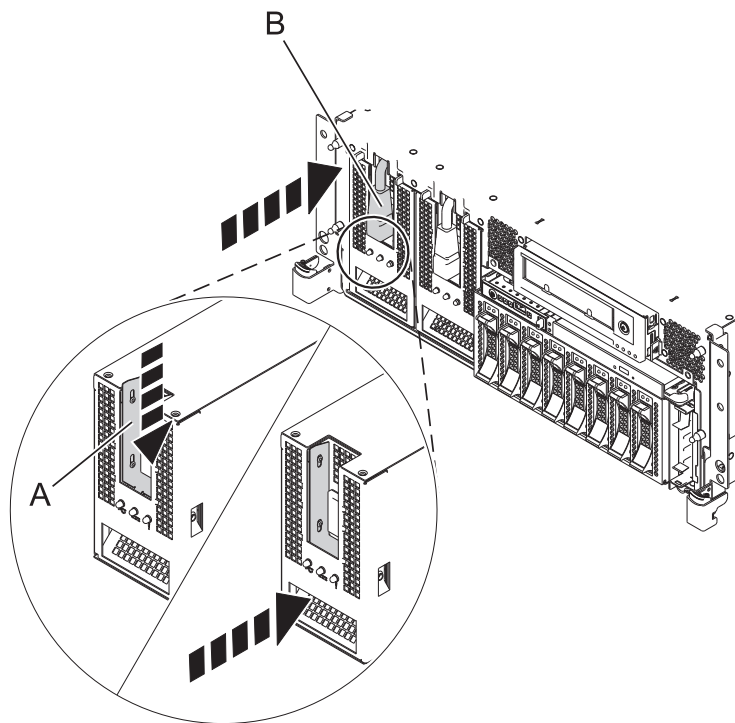

Figure 76. Replacing a power supply
4. Push the power supply into place until the locking latch (A) snaps into place as shown in Figure 76 on page 140.